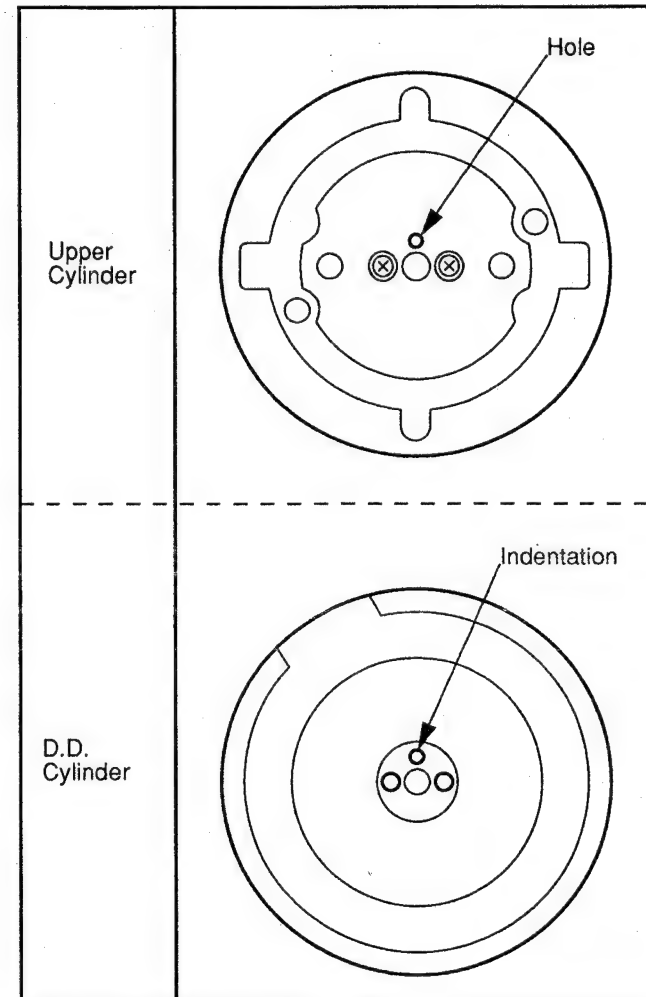

Fig. M4
- Install the new Upper Cylinder Unit carefully so that the hole in the new Upper Cylinder Unit is properly matched to align the hole on the Upper Cylinder to the center of the indentation on the D.D. Cylinder. For details on the installation position, refer to Fig. M4.